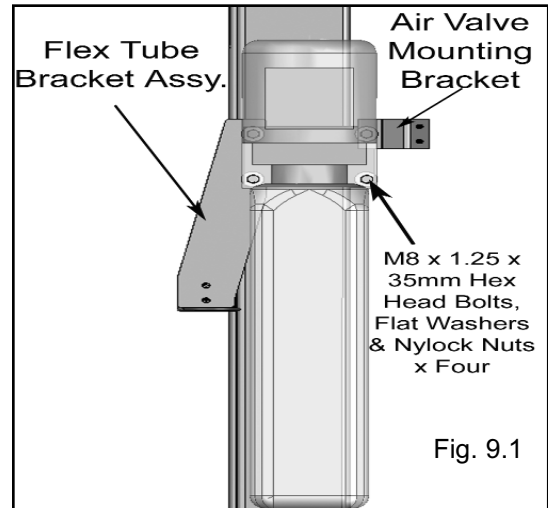

Fig. 9.1
1. Mount the power unit, Air Valve Mounting Bracket and Flex Tube Mounting Bracket to the Power Unit Mounting bracket using the M8 hex bolts and nylon nuts. then fill the reservoir with 12 quarts of 10-WT hydraulic oil or Dexron III automatic transmission fluid. (See Fig. 9.1)